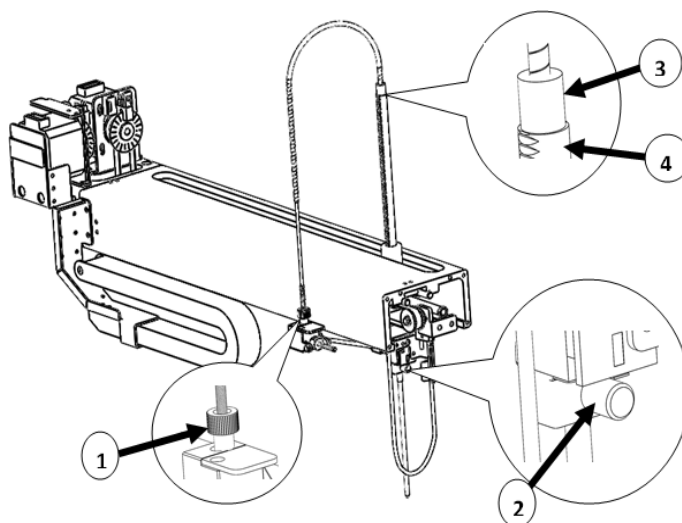

Figure 12.3 Aspirating probe assembly
7. Completely loosen the thumb screw at the rear of the level sensor block (as shown in Figure 12.3 No. 2).
9. Unscrew the aspirating probe connector (No.3 in Figure 12.3) off the rigid coupling.
4. Insert the aspirating probe from the top of the aspirating probe holder until the shoulder of the aspirating probe connector coincides with the top of the aspirating probe holder (as shown in 3 and 4 of Figure 12.3), and then stop.
5. While still holding the aspirating probe, tighten the thumbscrew (2 in Figure 12.3) on the back of the liquid level sensor block until the fingers cannot move.